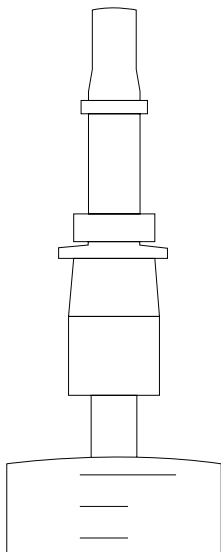

Figure 19 Insert tensiometer shaft
11. Push the ceramic of the first tensiometer shaft into the tube piece (Figure 19).